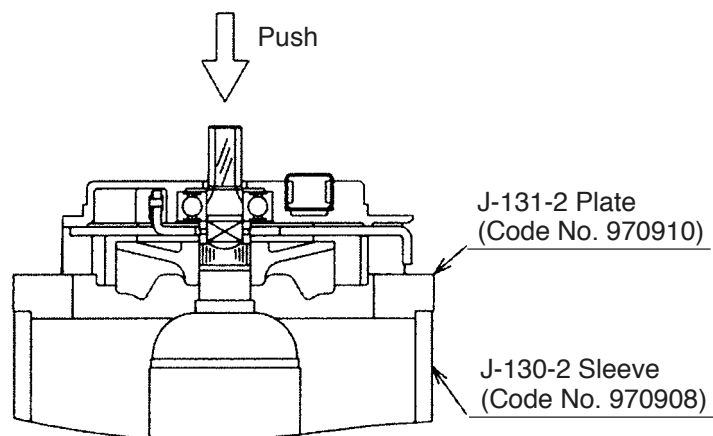

Fig. 7
4. As shown in Fig. 7, remove the Armature **[12]** **<12>** and the Lock Lever **[11]** **<11>** from the Inner Cover **[9]** **<9>** using the J-130-2 Sleeve (Code No. 970908) and the J-131-2 Plate (Code No. 970910).